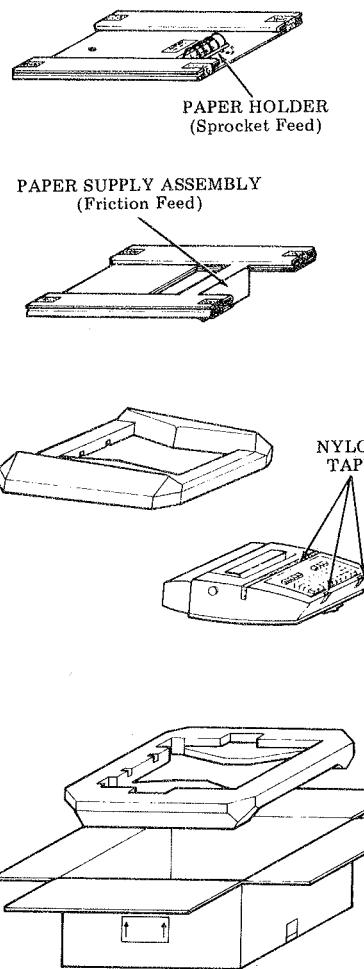

Fig. 7—Packing Details
4.04 Using the containers and packing details retained in 3.05, pack the 43 Teleprinter (Fig. 7).